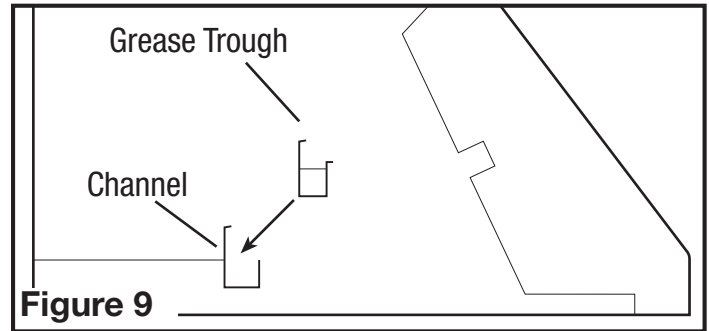

Figure 9
2. If the included removable grease trough is not already installed within the hood, insert into the rear inside channel of the hood. Make sure the taller side of the trough is facing towards the back of the hood (Figure 9).